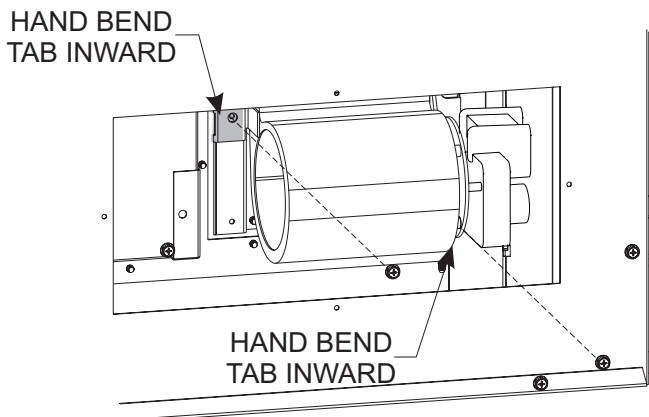

Figure 4
3. Bend tab as shown in **Figure 4** and secure with (2) screws.